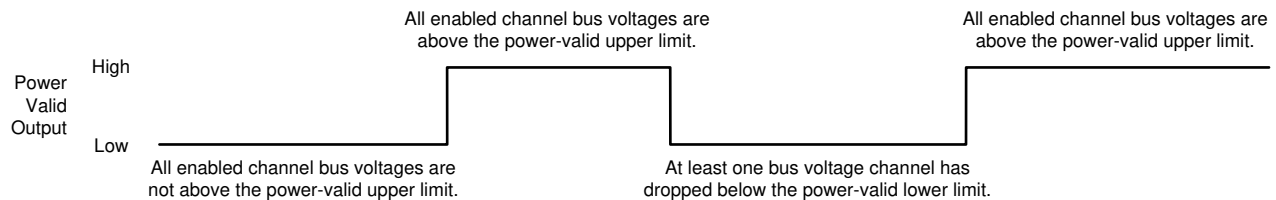

图 8-1. Power-Valid State Diagram
The power-valid alert verifies if all power rails are above the required levels. This feature manages power sequencing, and validates the reported measurements based on system configuration. Power-valid mode starts at power-up, and detects when each channel exceeds a 10-V threshold. This 10-V level is the default value programmed into the Power-Valid Upper-Limit register. This value can be reprogrammed when the INA3221-Q1 is powered up to a valid supply-voltage level of at least 2.7 V. When all three bus-voltage measurements reach the programmed value loaded to the Power-Valid Upper-Limit register, the power-valid (PV) alert pin pulls high. PV powers up in a low state, and does not pull high until the power-valid conditions are met, indicating all bus-voltage rails are above the power-valid upper-limit value. This sequence is shown in 图 8-1.